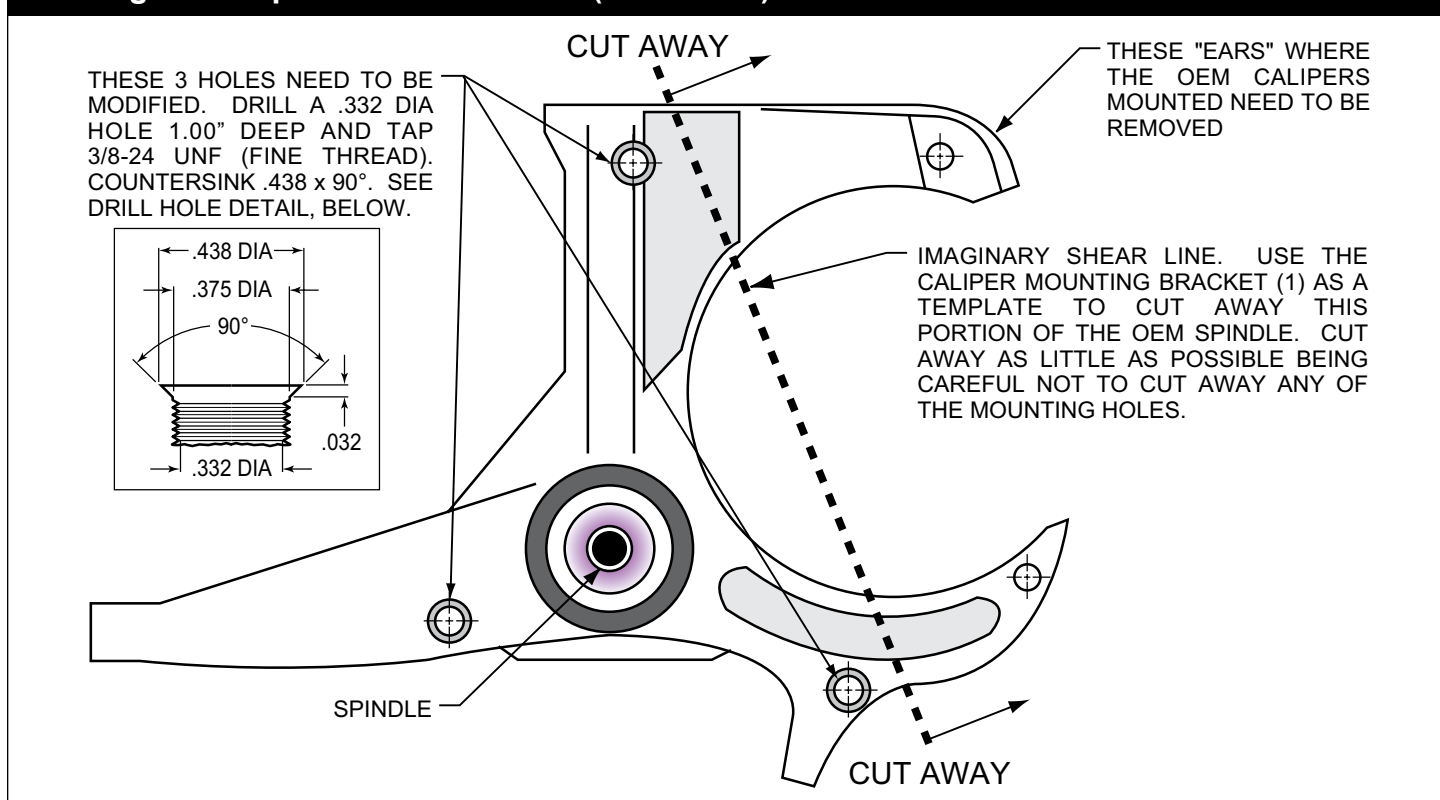

Figure 1. Steering Arm / Spindle Modifications
These modifications should be performed by a qualified machinist. Refer to Figure 1 on the following page as necessary (numbers in parenthesis refer to the parts list on page three). Only one view of the steering arm/spindle is shown, but the modifications need to be performed on both steering arm/spindles.
NOTE: Numbers in parenthesis refer to the parts list and Figure 1 on the preceding pages.
- Mount the adapter/rotor assembly (10/11) to the hub (7) using bolts (13) (finger tight), as shown in Figure 1. Apply red *Loctite*® 271 to the bolt threads and torque to 45 ft-lbs using a criss-cross pattern.
- Pack the small outer bearing cone (14) with high temperature disc brake bearing grease. Lightly coat the spindle bearing surfaces with bearing grease. Slide the hub/rotor assembly (7 and 11) with outer bearing cone (14) onto the spindle. Secure using spindle washer (15), existing adjusting nut and nut locking device. **NOTE:** Because of a tolerance variation among spindles, it may be necessary to install a shim washer (16) between the spindle washer (15) and the spindle nut if the spindle nut will not tighten down all the way. There are four supplied in the kit for your convenience.